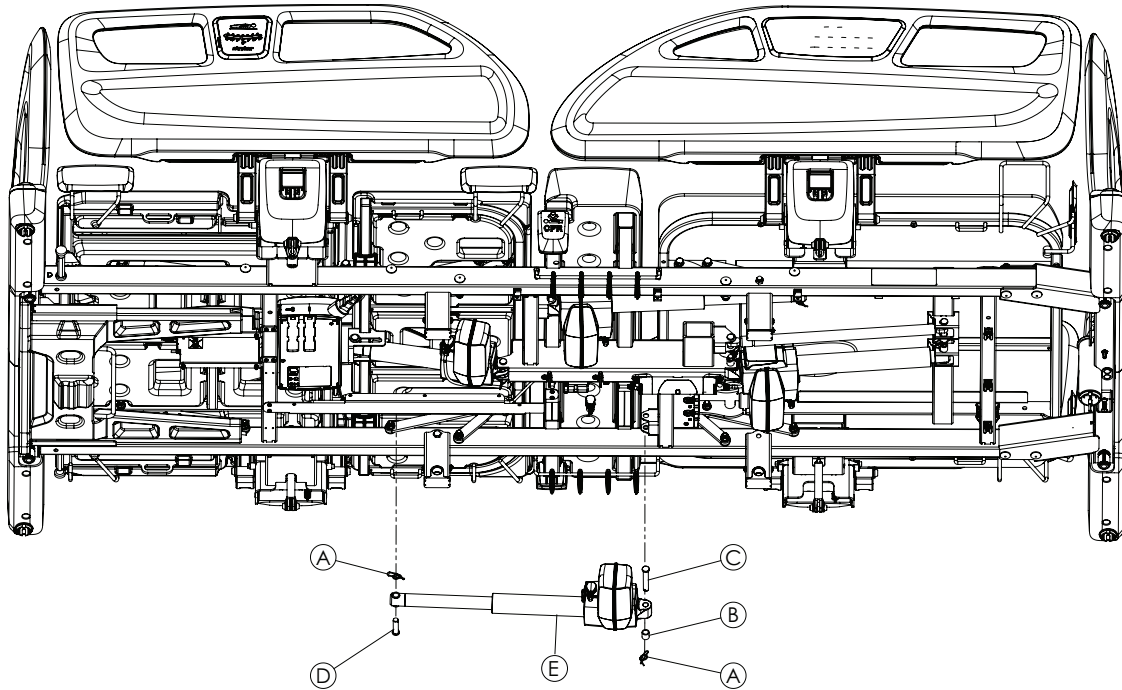

Figure 13 – Lift actuator, foot end
6. Using needle nose pliers, remove the rue ring cotter pins (A) from each clevis pin (Figure 13). Discard the rue ring cotter pins.
7. Using one hand, support the foot end lift actuator (E). Remove the foot end clevis pin (D). Discard the foot end clevis pin. Allow the foot end lift actuator to pivot down.
8. Using one hand, support the foot end lift actuator (E). Remove the head end clevis pin (C) and spacer (B). Discard the head end clevis pin and spacer.